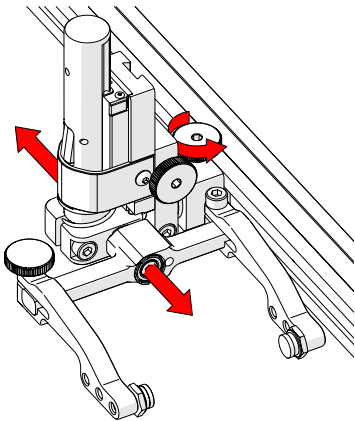

Fig. 89 - Adjust on frame bar
1. The probe holder adjustment knob allows the probe holder to be attached to a frame bar, as well as horizontal positioning on a frame bar (Fig. 89).